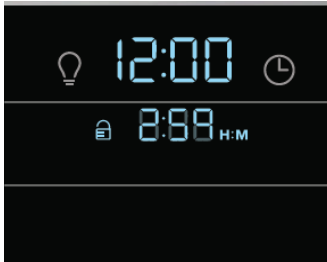

Figure 29: Clean cycle in progress
- During the clean cycle the time of day remains in the display and the time remaining in the clean cycle will also be active. (Figure 29)